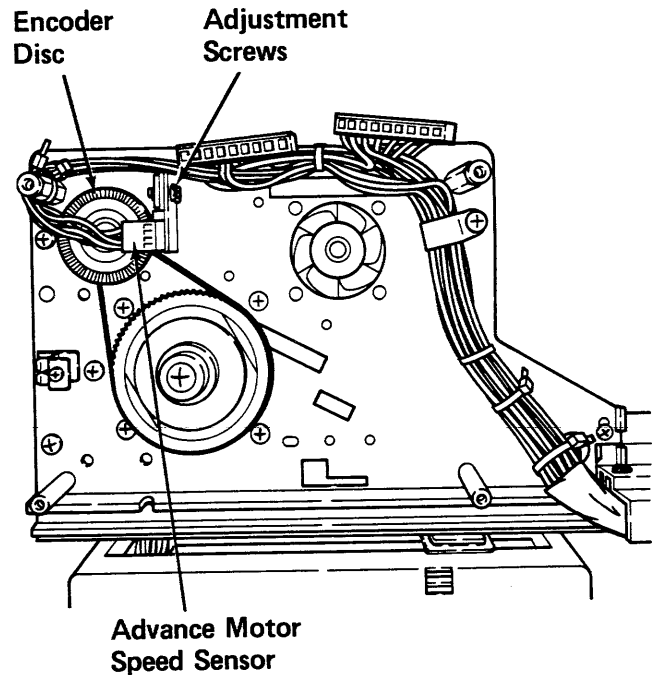

Figure 3-10.10A
2. Loosen the Adjustment Screws for the Advance Motor Speed Sensor (Figure 3-10.10A).